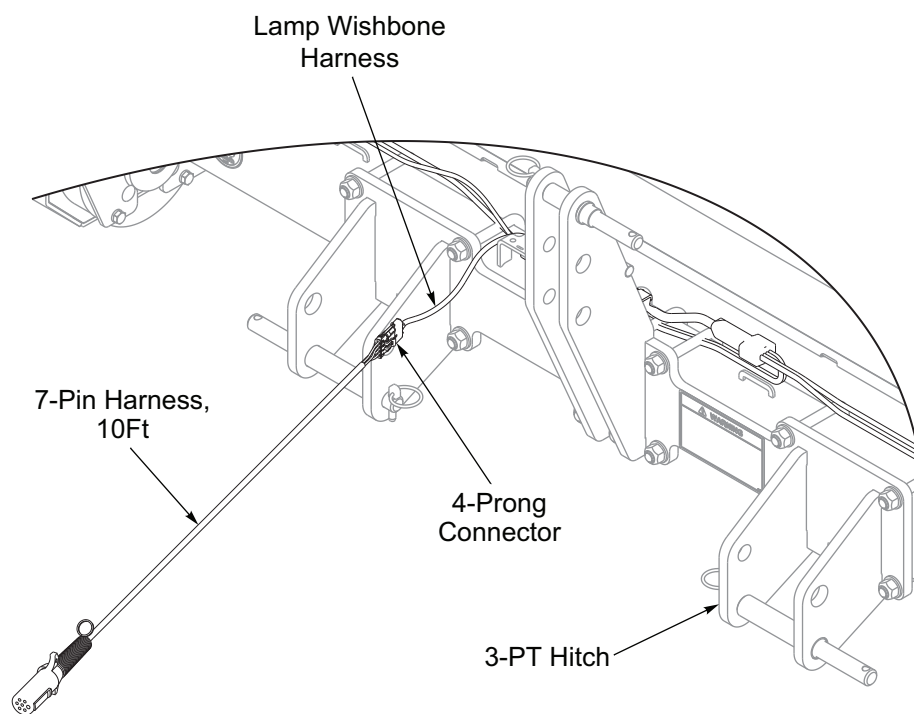

Figure 2-1: 3-PT Hitch Installation
1. Untie the 7-Pin Harness from the Till 'N Seed Frame Tube. **See Figure 2-1.**